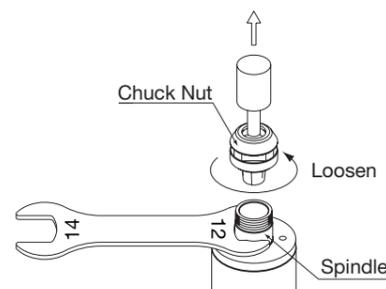

Fig. 20
- (1) Remove the cutting tool according to the “12 CHANGING CUTTING TOOLS” procedure above and remove chuck nut assembly. (Fig. 20)
- (2) The collet and chuck nut are held together by a groove in the collet and a flange in the chuck nut. To remove the collet hold the chuck nut in one hand and push diagonally down on the collet. The collet should pop out. (Fig. 20)